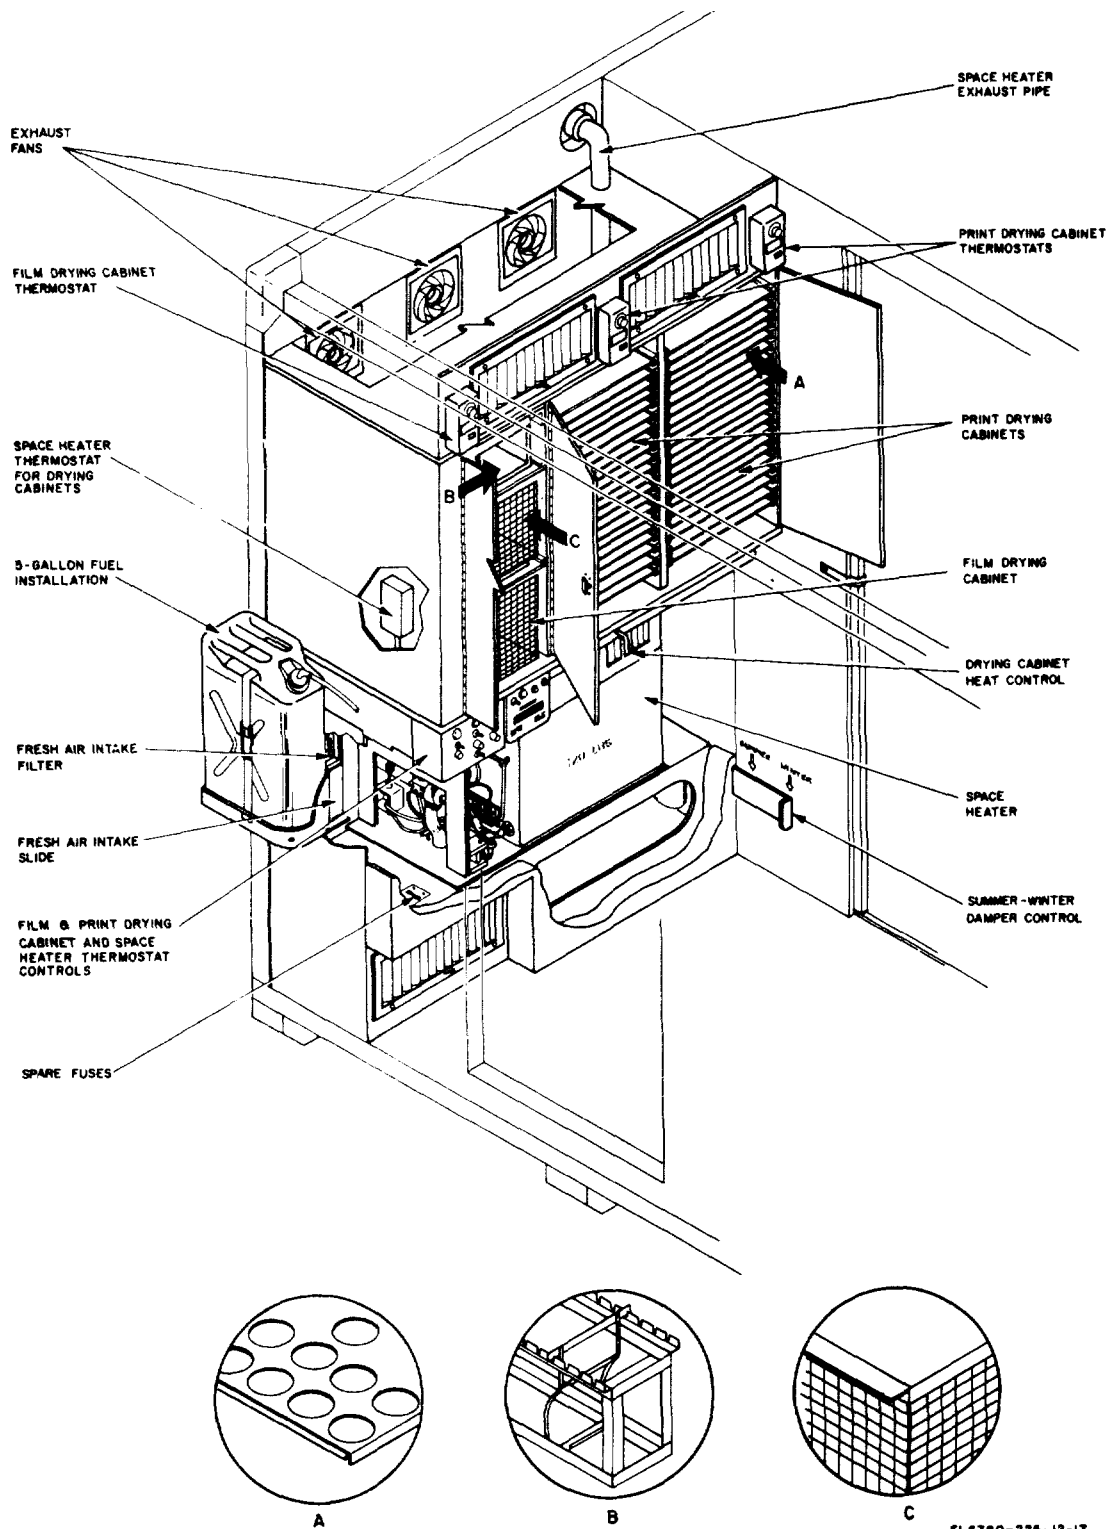

Figure 1-1. Film, print drier and space heater installation
d. *Film and Print Drying Cabinets.* One film and two print drying cabinets are located aft roadside, above the space heater (fig. 1-1). The three cabinets each contain an exhaust fan which operates in conjunction with an individual thermostat. The drying cabinets may be operated with forced hot air from the space heater or with forced air from the darkroom; each print drier contains perforated removable shelves which accommodate the prints to be dried. The film drier contains one sliding rack which holds 4 x 5-inch film carriers, and two wire baskets to contain film reels.
(figs. 1-1 and 5-2), and contains its own control panel and thermostat (fig. 2-8). A summer and winter mode of operation is obtained by a SUMMER-WINTER slide damper controlling the flow of heated air through the
air duct installation (fig. 1-1). An Adjustable fresh air intake, and fresh air filter is located at the rear of the space heater compartment to provide a constant flow of fresh air from the outside. Spare fuses for the space heater are mounted at the bottom of the space heater compartment.